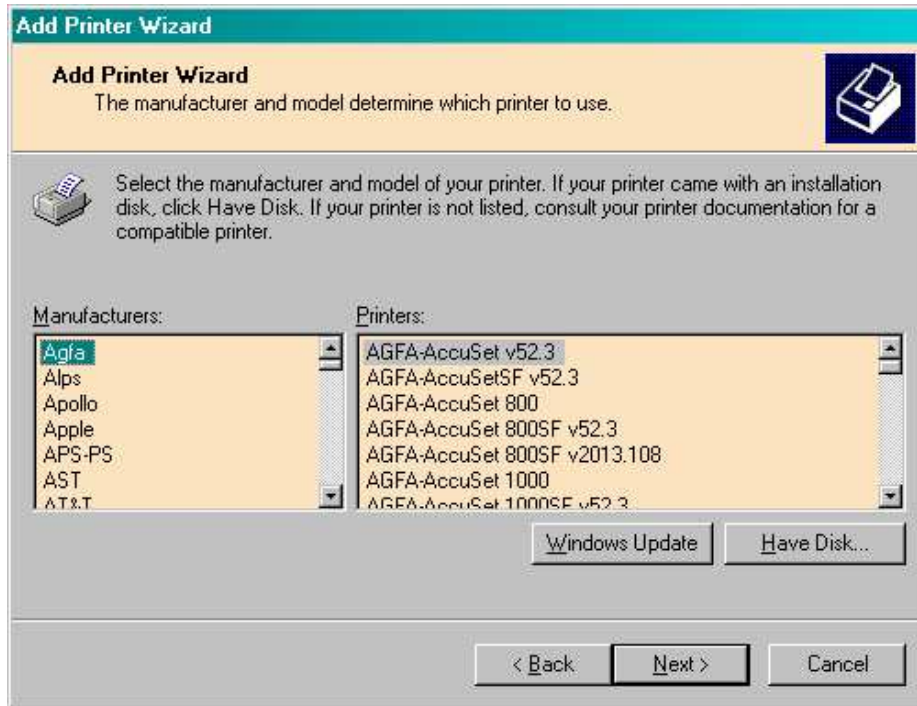

Figure 6
6. The standard printer manufacturer/model dialog appears, as in Figure 6: